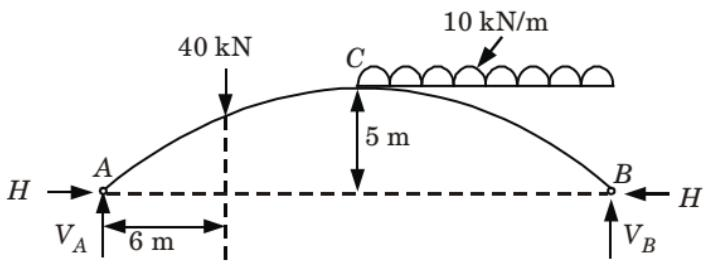

Fig. 44.
1. The arch is shown in Fig. 44. Taking moment about B, we get